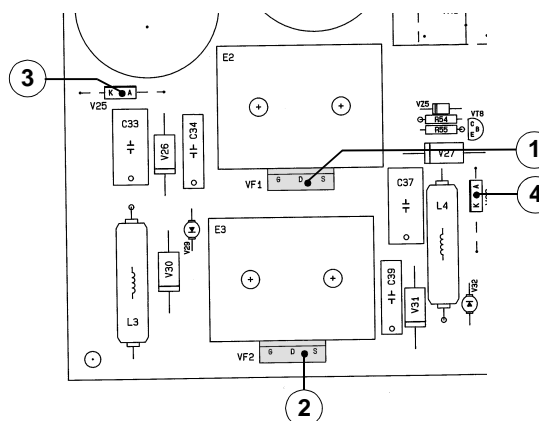

FIG. 4 REF. 1
2. IGBT of the primary circuit and diodes of recycle: test points G-C, G-E, C-E of components 1 and 2; points A-K of components 3 and 4 (fig. 4)